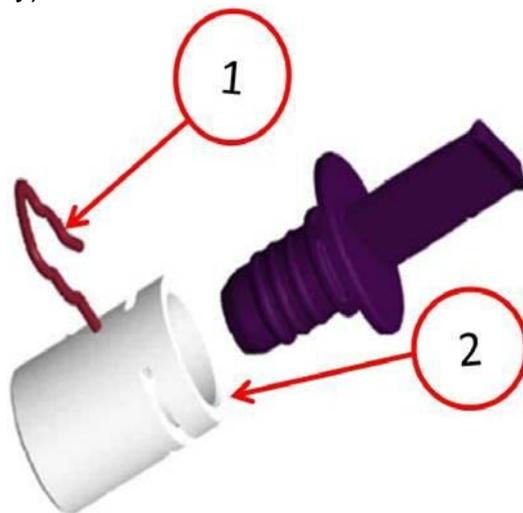

Fig. 6 Clutch cap
5. Install the retaining clip onto the new cap, p/n K68166291AA (Fig. 6) (see Part&Service availability).